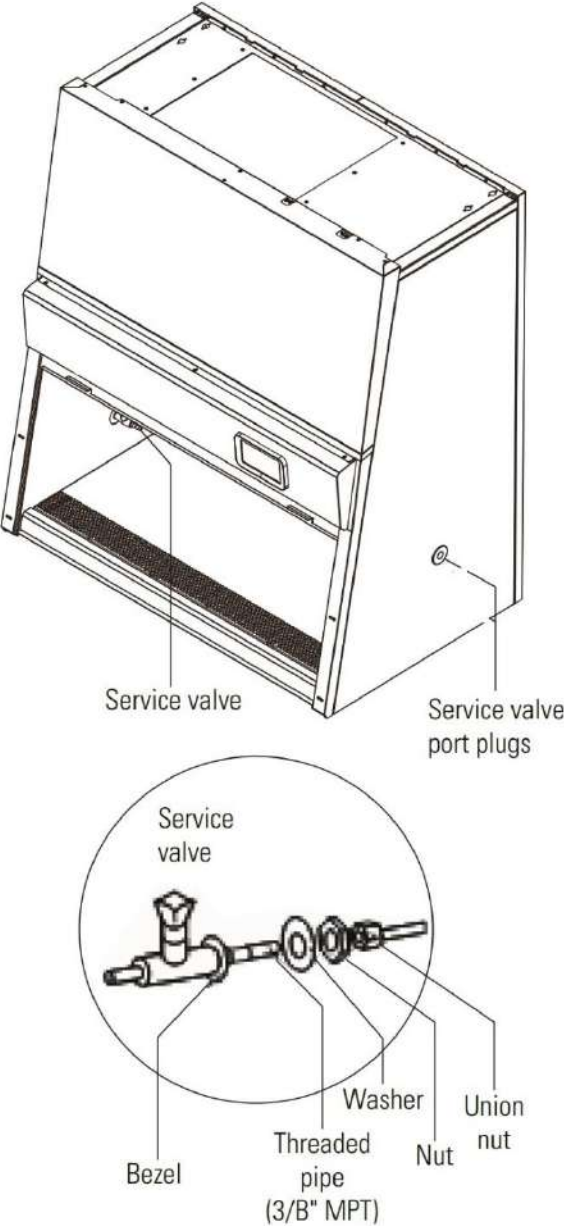

Figure 2-4. Valve Assembly and Installation
4. Referring to Figure 2-4 on the following page, slide the bezel onto the threaded pipe of the service valve. Apply a thin bead of silicon to the inner flange of the service valve.